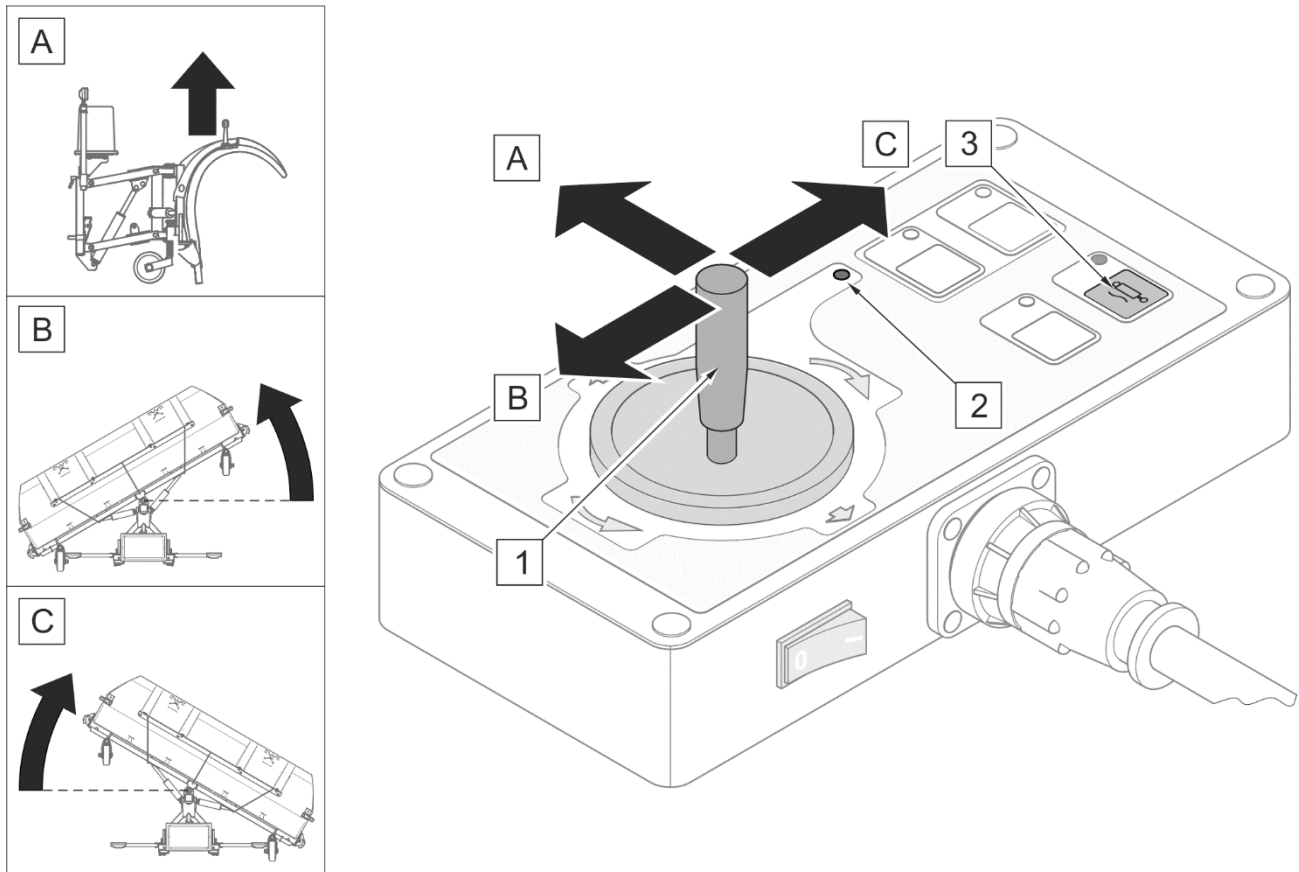

FIGURE 4.11 Controlling the mouldboard
The snowplough's mouldboard is controlled using joystick (1). Individual functions of joystick (1) are shown in (FIGURE 4.11). When the joystick is shifted to position (A,B,C), the indicator light (2) lights up for the period of operation of the Power-Pack electro-hydraulic power supply. The snowplough's mouldboard can be lowered only by switching on the floating function by means of switch (3).